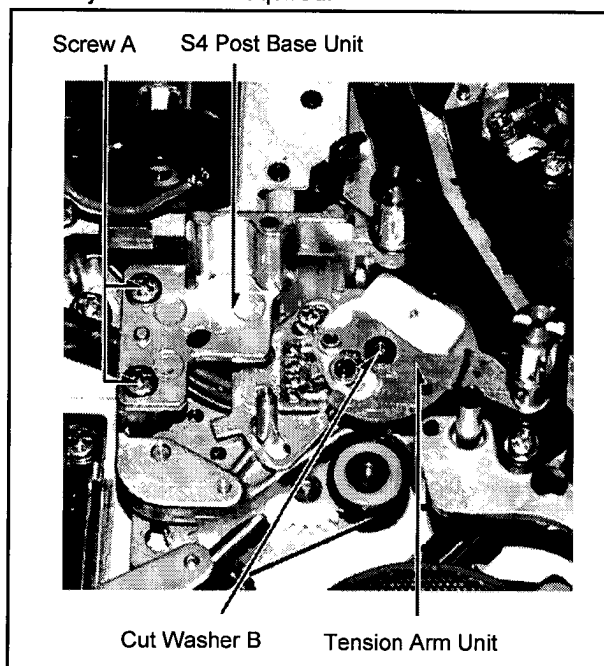

Fig.4-12
1. Remove the 2 screws A and the S4 Post Base Unit. (Fig.4-12)
2. Remove the cut washer B and the tension spring. (Fig.4-12)